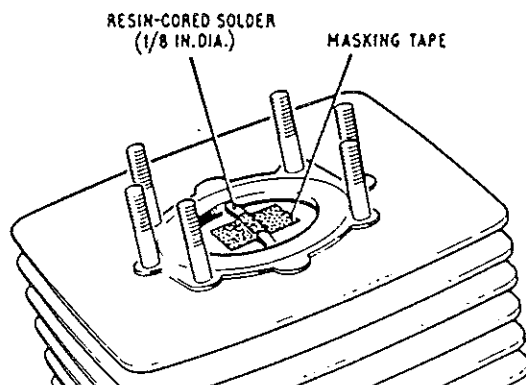

FIG. 1.4a.- MEASURING SQUISH AREA
2. Tape a piece of resin cored solder ( $\frac{1}{8}$ " dia) across the piston crown parallel to the gudgeon pin. Bring piston to within  $\frac{1}{4}$ " BTDC (See Fig. 1.4a).